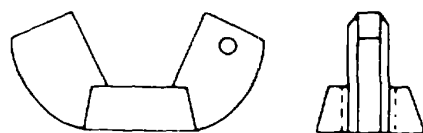

Figure 2-26. Wingnut
f. *Wingnuts.* Use MS35425 and MS35426 wingnuts, as shown in figure 2-26, where desired tightness is ordinarily obtained by the fingers, and where the assembly is removed frequently. When a plain wingnut requires securing with lockwire, a 0.070 inch (± 0.010 inch) diameter hole must be drilled in the center of one lobe. The WC02 self-locking wingnut does not require lockwire.